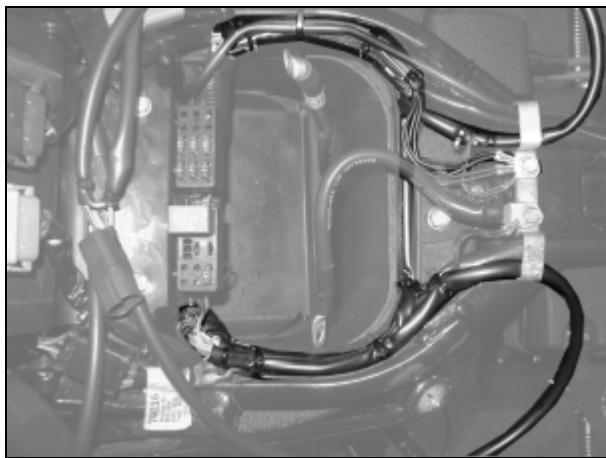

Figure 4. CCWH Position
7. See Figure 4. Remove left bolt and loosen right bolt on wire clamp. Route left and right side of CCWH to right side of shield loom. Route right side of CCWH under right side of wire clamp. (right side harness can be identified by Deutsch male connector housing and includes two connectors for the throttle roll-off switch). Route left side of CCWH in cross wire trough of the shield loom (left side harness can be identified by grounding connector, Deutsch male connector housing). Place left side of CCWH including Deutsch connector under wire clamp closest to the left wire clamp bolt. Insert fuse terminals into unused fuse position, next to spare fuse holders on relay side of fuse block. **Make certain that you are using the unused fuse position that does not have an existing fuse terminal!** (fuse terminals are very difficult to remove once inserted) Refer to service manual for empty fuse position location. Install supplied 10 amp fuse into fuse position. Splice white wire with green stripe to vehicle speed signal (white wire with green stripe in wiring harness from engine control module, if fuel injected, or from ignition control module, if carburetor equipped). Trim to length if necessary. Place ground connector under existing left side ground connectors and replace left wire clamp bolt. Tighten both wire clamp bolts. Evenly distribute and secure CCWH to shield loom by replacing factory cable ties with supplied ties.